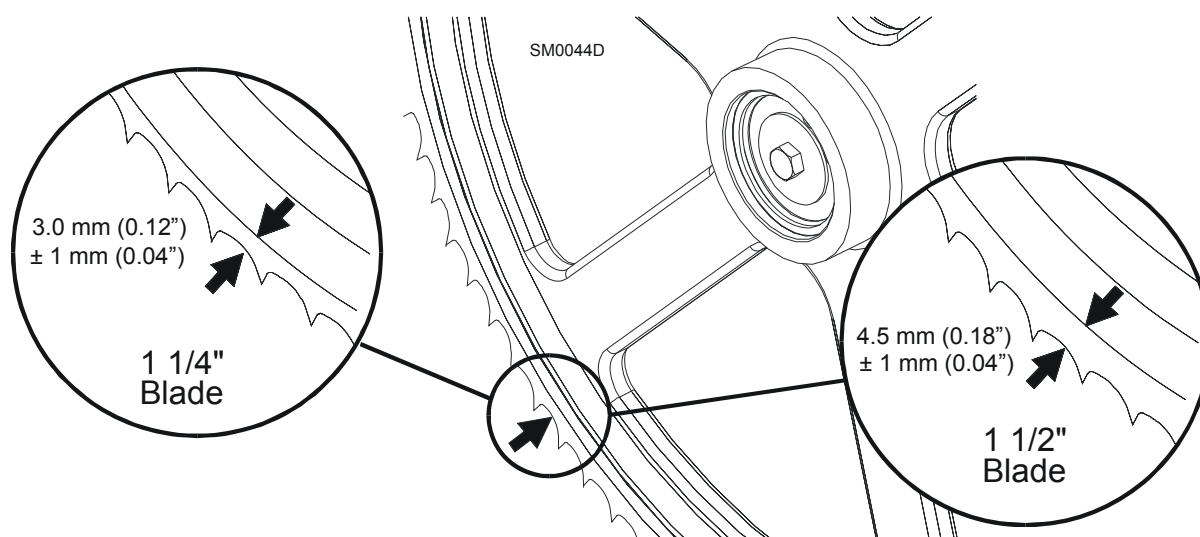

FIG. 5-2
**See Figure 5-2.** The blade wheels should be adjusted so that the gullet of 1 1/4" blades rides 3.0 mm (0.12") out from the front edge of the wheels ( $\pm 1.0$  mm [0.04"]). The gullet of 1 1/2" blades should ride 4.5 mm (0.18") from the front edge of the wheels ( $\pm 1.0$  mm [0.04"]). Do not let the teeth ride on the belt.